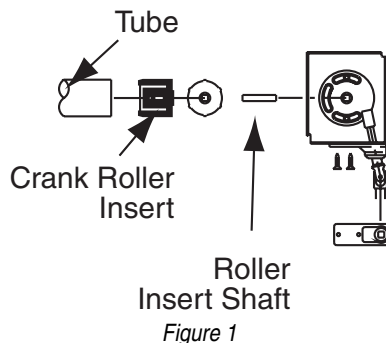

Figure 1
- ① Open cartons lengthwise. Remove all pieces from carton. If the shade has a detachable crank handle, remove the universal joint and shaft/bracket assembly by removing 2 screws from the bottom of the endcap (Fig. 1). Save universal joint & screws.